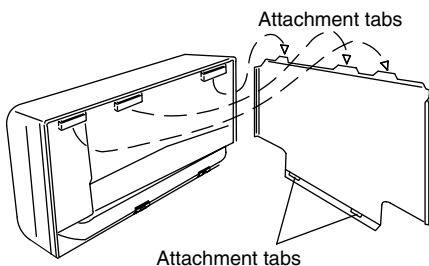

Fig. 3-26
1. When attaching the indoor unit, position the indoor unit onto the attachment tabs on the upper part of the rear panel. (Fig. 3-26)